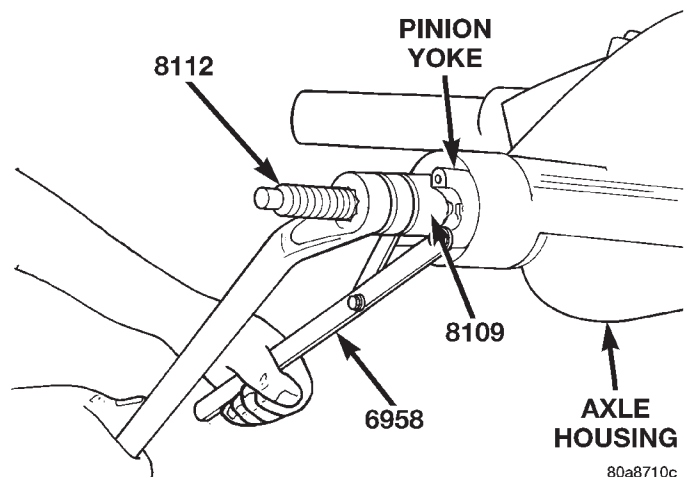

Fig. 22 Pinion Yoke Installation
(5) Install yoke with Screw 8112, Cup 8109, and Holder 6958 (Fig. 22).